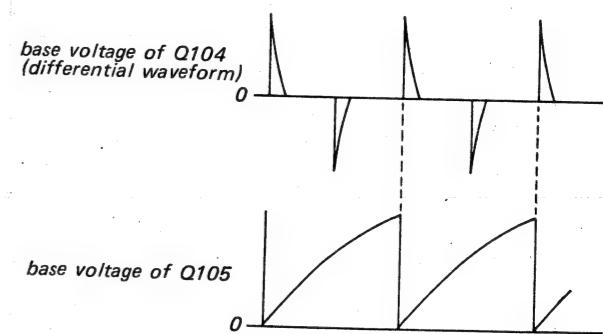

Fig. 2-3.
- With the arrival of the non-positive part of the differential waveform, Q104 is turned OFF. Consequently, C107 charges up again in the manner shown in Fig. 2-3.